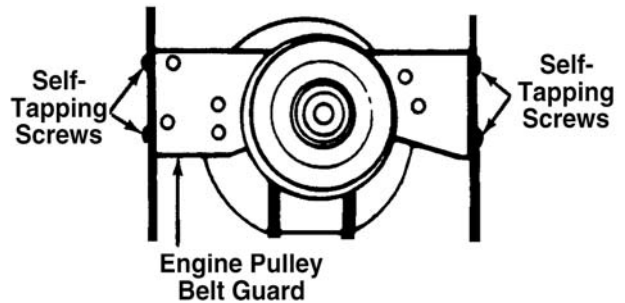

Figure 4-42. Engine Pulley Belt Guard
5. Remove the two self-tapping screws on each side of the frame which hold the engine pulley belt guard to the frame. Remove the engine pulley belt guard by slipping it forward and down. See Figure 4-42.